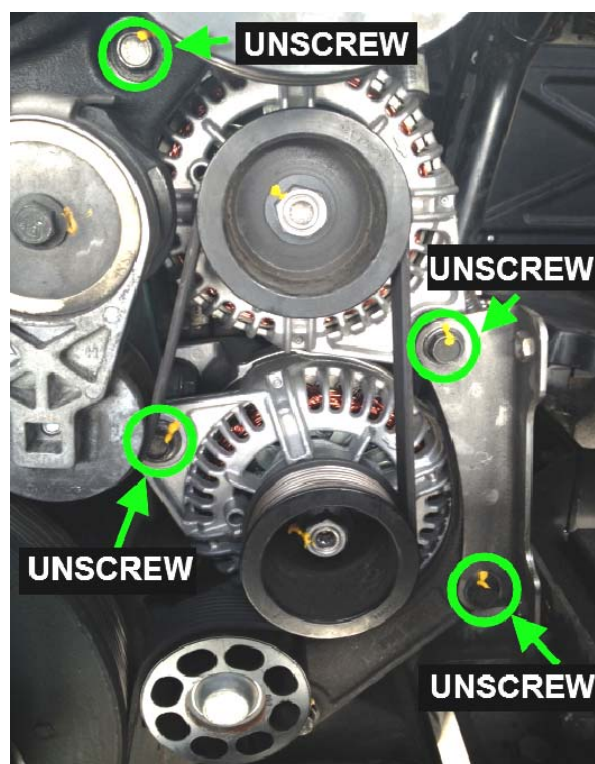

FIGURE 4
7. Remove the existing alternators. To do so, unscrew identified mounting bolts on FIGURE 4 and keep for reuse.